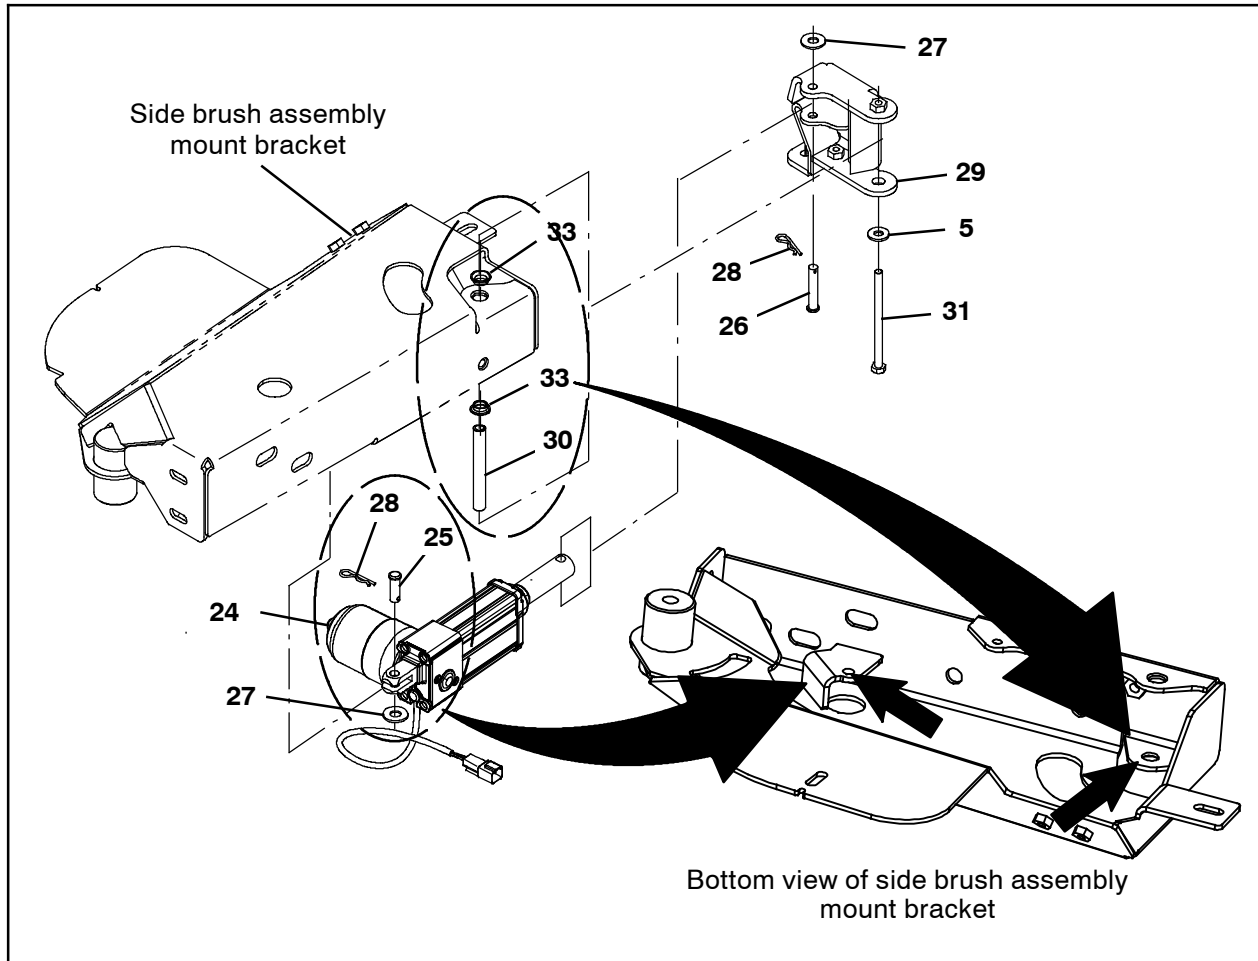

FIG. 3
5. Use a clevis pin (26), a flat washer (27), and a cotter pin (28) to install the actuator arm (29) onto the shaft of the side brush assembly actuator (24). (Fig. 3)
6. Insert two flange bushings (33) into the side brush assembly mount bracket. (Fig. 3)
7. Use a clevis pin (31), a flat washer (5), and a sleeve (30) to install the side brush assembly actuator (24) onto the side brush assembly mount bracket. (Fig. 3)
8. Use a clevis pin (25), a flat washer (27), and a cotter pin (28) to install the side brush assembly actuator (24) to the actuator bracket in the side brush assembly mount bracket. (Fig. 3)